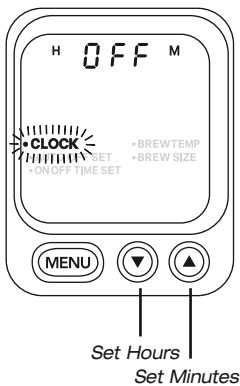

figure 17
1. Press the Menu button. Programming options will appear on the control panel with CLOCK flashing. The word OFF will appear at the top of the control panel to indicate that the clock is not set (see figure 17).